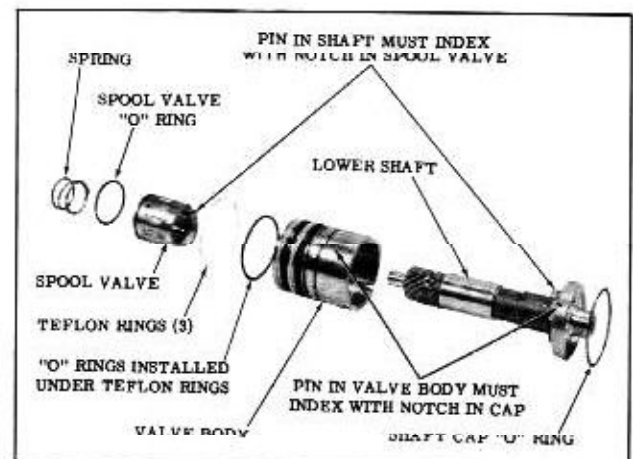

Fig. 4-54 Valve and Lower Shaft Assembly
ASSEMBLY (Fig. 4-54)
3. Assemble the lower shaft assembly in the valve body so the notch in the lower shaft engages with the pin in the valve body. (Fig. 4-54) If necessary, tap the shaft cap with a plastic hammer until cap is seated in the valve body.